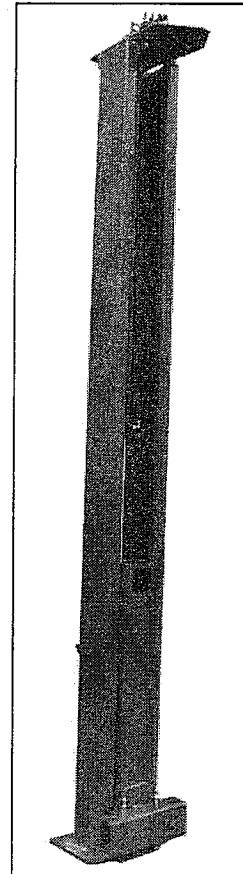

Fig. 10
3. Upright the column. Position it on the place correctly.(Fig 10)